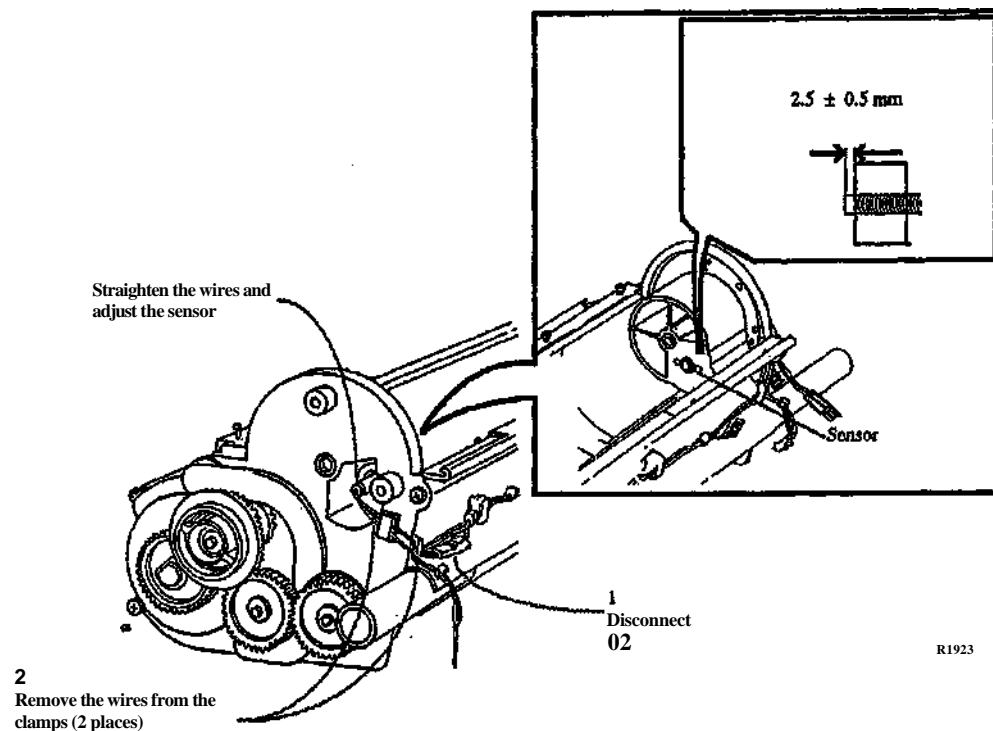

Figure 2. Adjusting the Toner Cartridge Home Sensor
2. (Figure 2): Adjust the Toner Cartridge Home Sensor to 2.5 ± 0.5 mm from the plate.